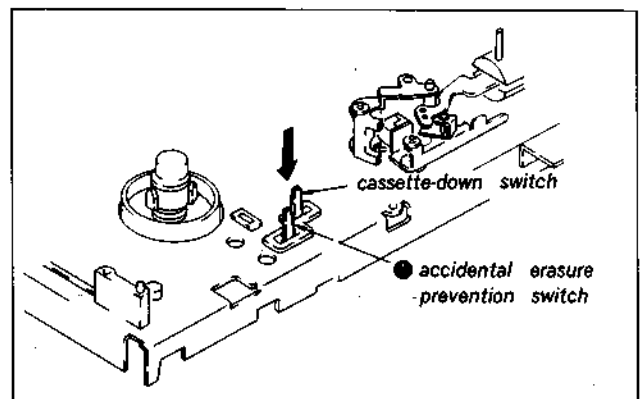

Fig. 1-2. How to put the recorder in recording mode with the FL cassette compartment removed
1. Thread by the procedure in 1-10-1 than press the accidental erasure prevention 1 switch shown in Fig. 1-2.